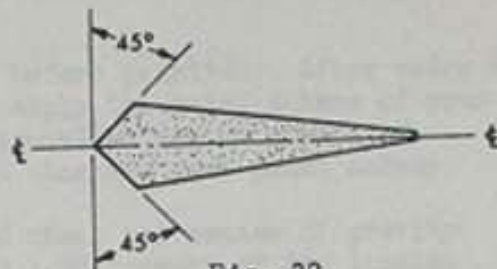

Fig. 32
31. Cut elevators away from stab and bevel the leading edges (figure 32). Drill holes and install 1/2" dia hardwood dowels in elevators at locations shown on template and figure 33. Sand dowels to contour of elevator. Drill and tap a hole into each dowel to accommodate a 4-40 bolt. As shown in figure 34, the bolt head is then removed to accept a standard Rocket City aileron clevis. This same procedure is used on the rudder.